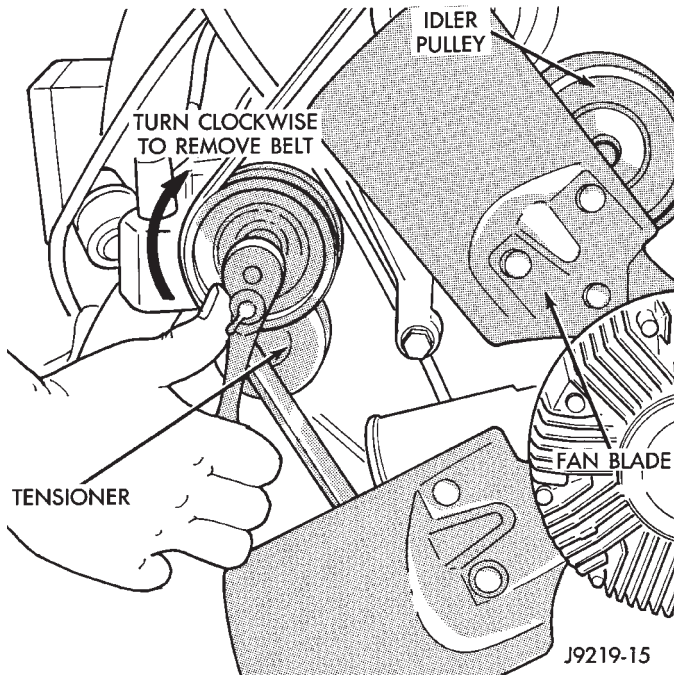

Fig. 30 Automatic Belt Tensioner Assembly
(6) Remove accessory drive belt as follows: The drive belt is equipped with a spring loaded automatic tensioner (Fig. 30). Relax tension from belt by rotating tensioner clockwise (as viewed from front) (Fig. 30). When all belt tension has been relaxed, remove accessory drive belt.
- (7) Connect throttle body control cables.
- (8) Install oil dipstick mounting bolt.
- (9) Install idler pulley. Tighten bolt to 54 N·m (40 ft. lbs.) torque.
- (10) Relax tension from belt tensioner (Fig. 30). Install drive belt.